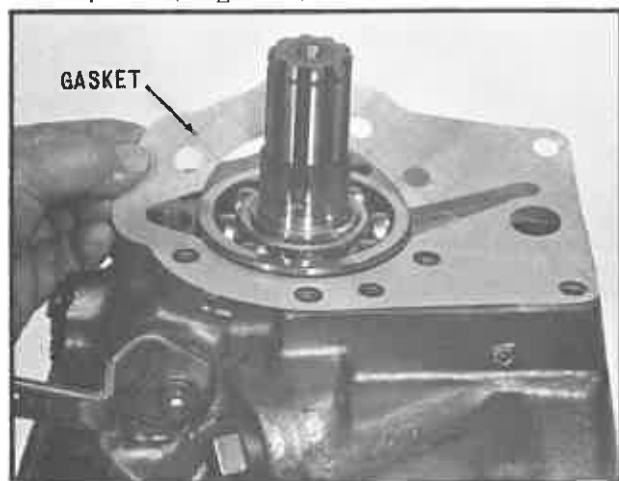

Fig. 21 Assembling Gasket
13. Place the reduction unit adapter gasket-front in position on rear face of transmission (Fig. 21). Gasket may be coated with petroleum jelly for easier assembly.